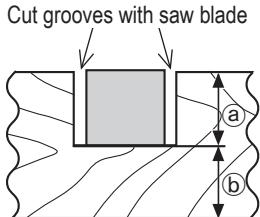

Fig. 44
Grooves in the workpiece can be cut as indicated in Fig. 44 by adjusting the 6 mm depth adjustment bolt.
- (2) Adjust to the desired cutting depth by setting the distance between the saw blade and the surface of the turntable (see ⑤ in Fig. 44).